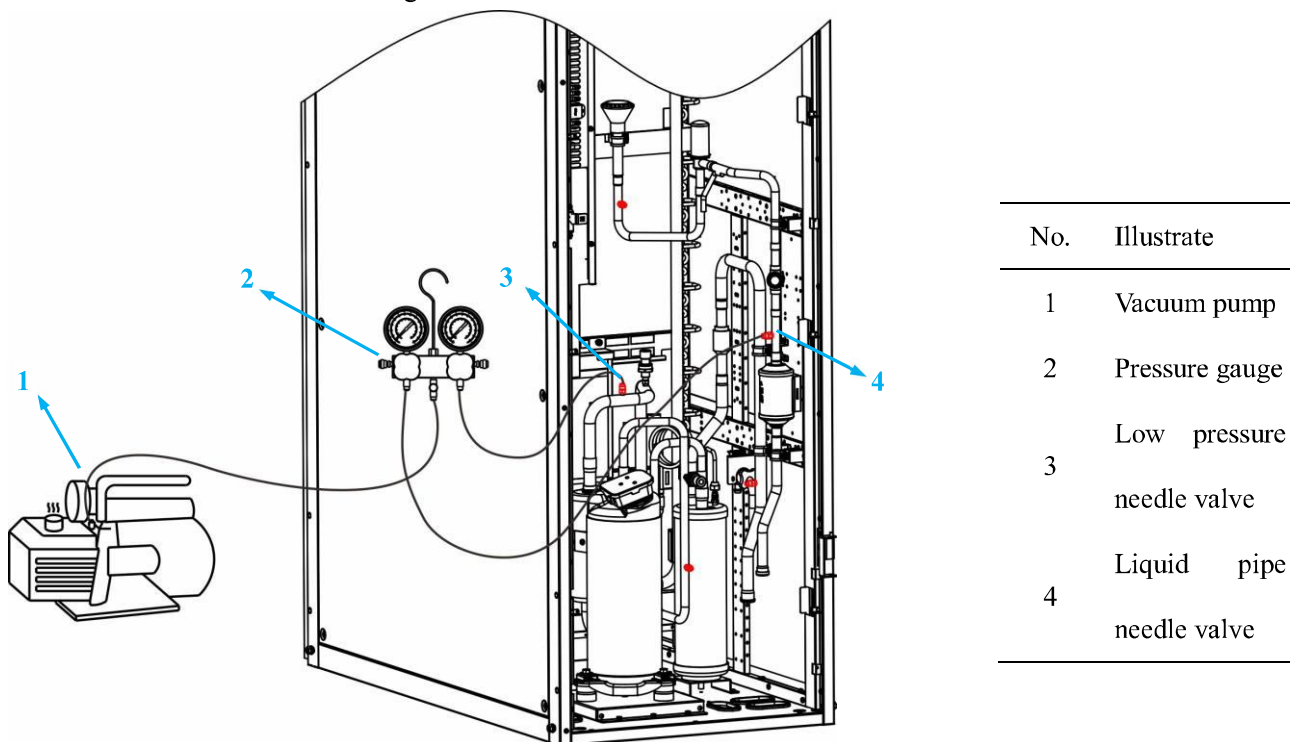

Figure 2-9 Schematic diagram of vacuum pumping
- If there is no solenoid valve installed, connect the pressure gauge and vacuum pump from the two positions of the low-pressure needle valve and the liquid path needle valve, and start vacuuming at the same time. As shown in Figure 2-9: